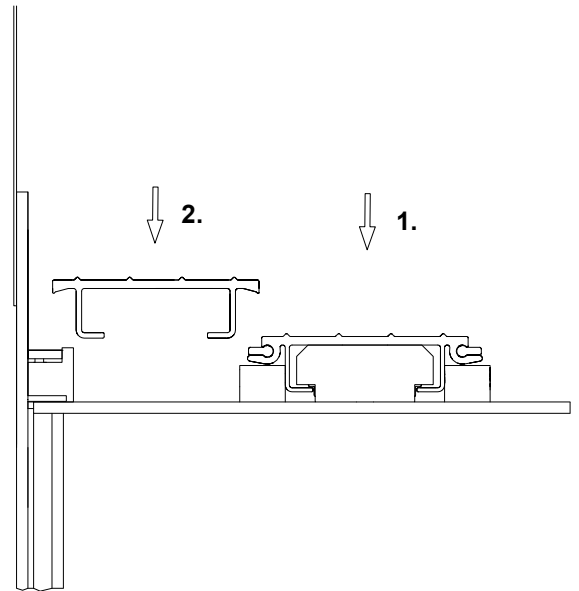

Figure 2
3. If the plastic end plugs are to be installed onto the lower slats then install them now as shown in Figure 2. If not then install these plugs when the hold down blocks are installed.
4. See the next page for installing the slats onto the sub-deck. Note: The lower slats must be installed before installation of the upper slats (see Figure 2).